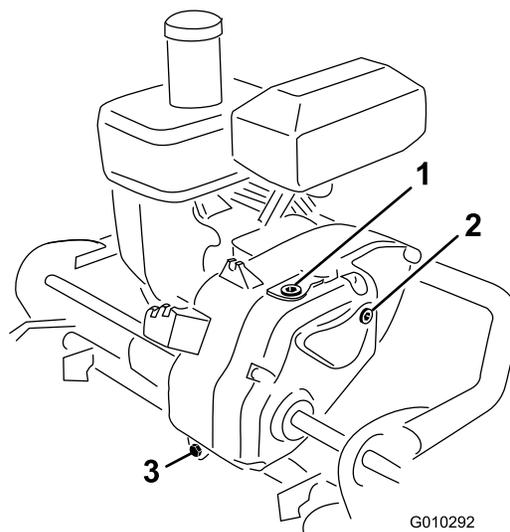

Figure 34
2. Remove the check plug from the right-hand side of the transmission (Figure 34).